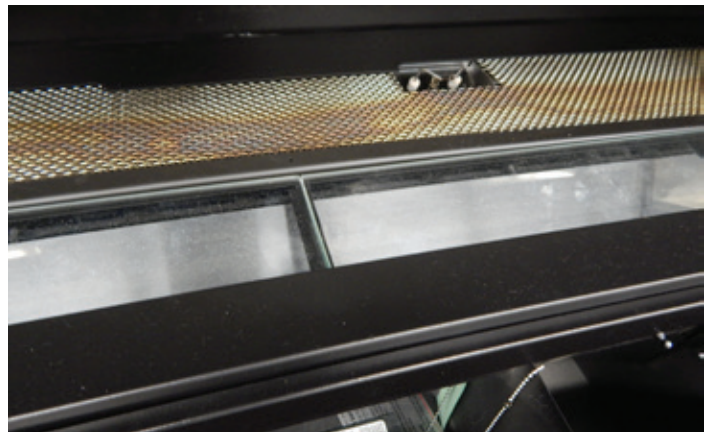

Figure 12
19. Figure 12 shows the Burner Cover, Accent Glass panels, and Front Access Cover installed.